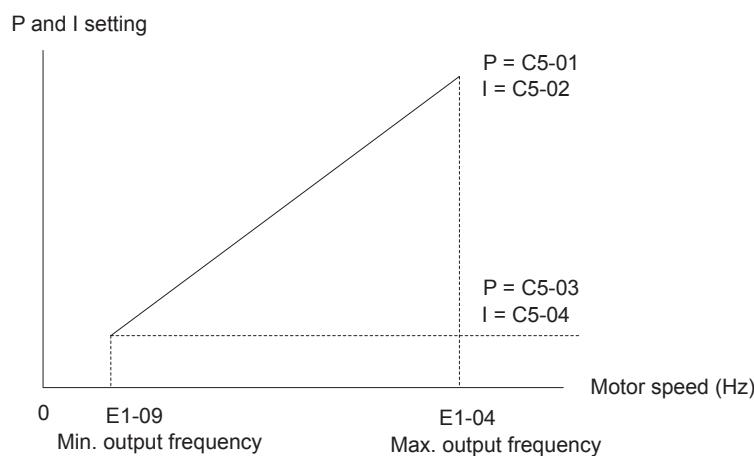

Fig 6.72 Speed Control Gain Integral Time Adjustment for V/f Control with PG
When using V/f control with PG, set the proportional gain (P) and the integral time (I) at E1-09 (minimum output frequency) and E1-04 (maximum output frequency). Fig 6.72 Speed Control Gain Integral Time Adjustment for V/f Control with PG shows how the proportional gain and integral time change in linear fashion based on the speed.